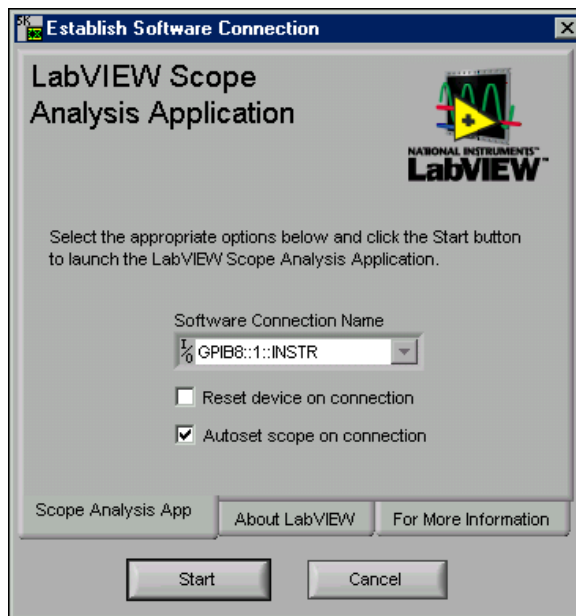

Figure 4. Establish Software Connection Window
2. Select **Start»Programs»National Instruments»LabVIEW Scope Analysis Demo (TDS #k)»LabVIEW Scope Analysis Application (TDS #k)**, where # is the oscilloscope series, to run the LabVIEW Scope Analysis Application. The **Establish Software Connection** window appears as shown in Figure 4.